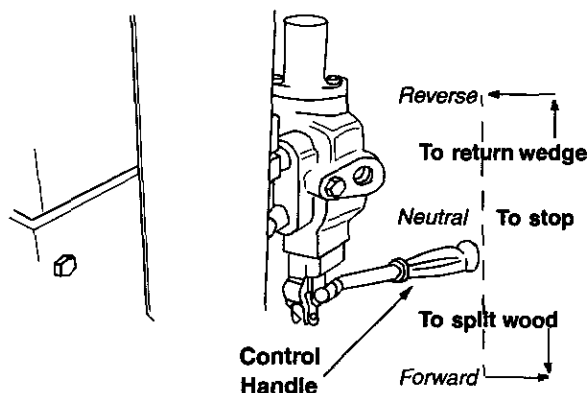

Figure 8
- Use control handle to engage the wedge to the far extended position. Refer to Figure 8.
- Move control handle BACK or UP to return the wedge. See Figure 8 on page 11.
The control handle has three positions. See Figure 8.